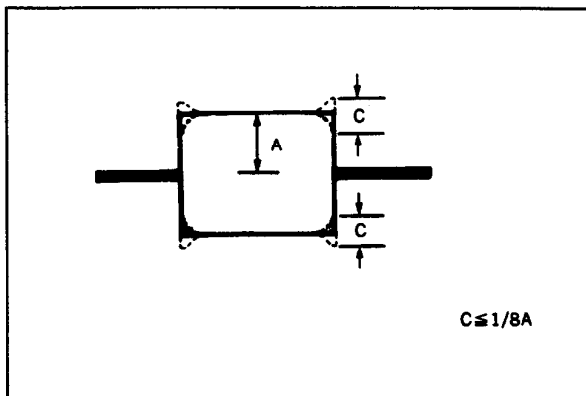

Fig. 61
- 3) Make sure that the waveform does not fluctuate greatly. (Fig. 61)